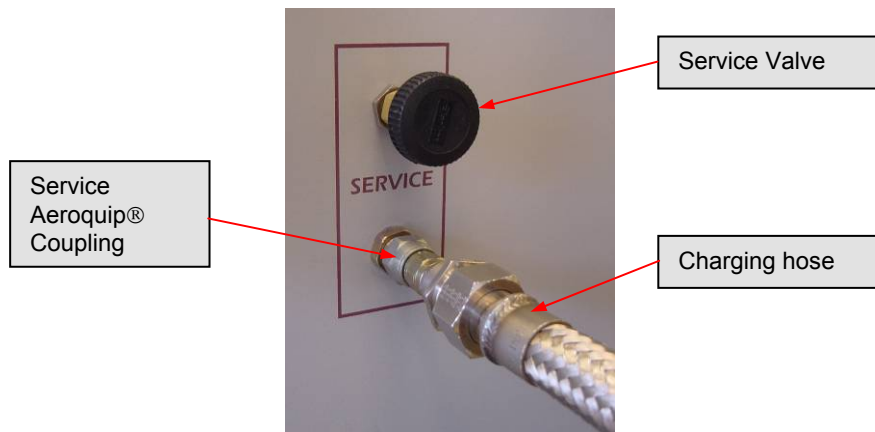

Figure 8-4: Service valve and access port
1. Make sure the service valve is closed. **See Figure 8-4.**
6. Attach the service Aeroquip® coupling to the service access port. **See Figure 8-4.**